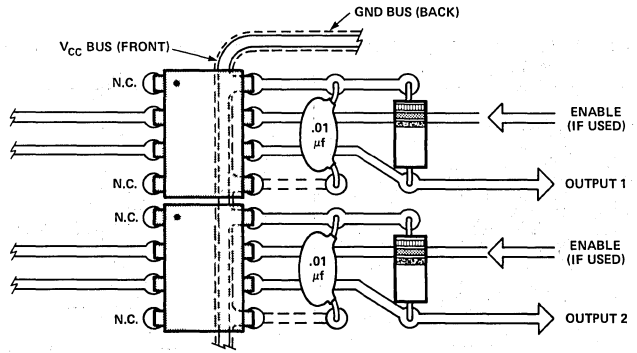

Figure 15. Recommended Printed Circuit Board Layout.
- Bypassing of the power supply line is required, with a 0.01 μF ceramic disc capacitor adjacent to each isolator as illustrated in Figure 15. The power supply bus for the isolator(s) should be separate from the bus for any active loads, otherwise a larger value of bypass capacitor (up to 0.1 μF) may be needed to suppress regenerative feedback via the power supply.